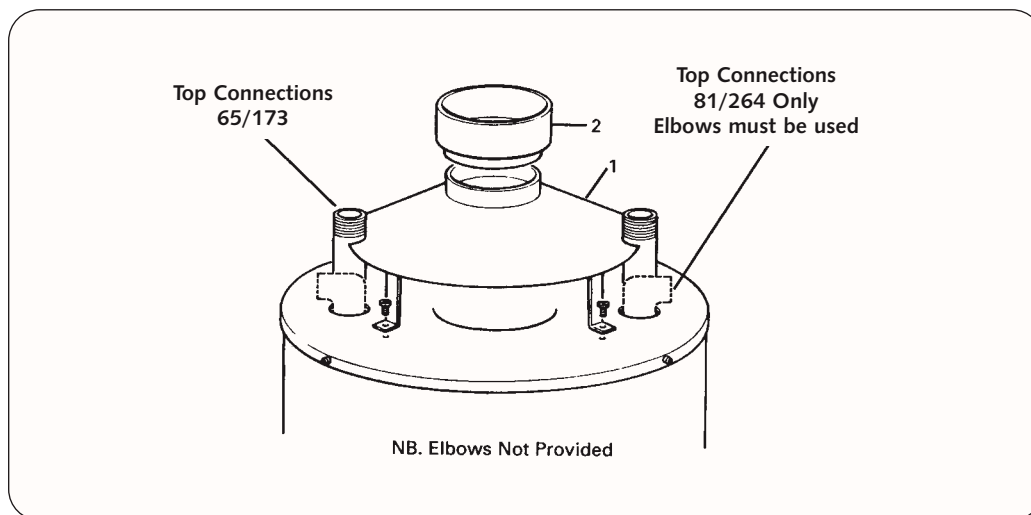

Fig. 1
The draught diverter must be assembled with the legs provided. Attach the legs to the draught diverter with the nuts and bolts provided. Fit the draught diverter (1) as shown in Fig.1 to the water heater using the screws provided. For Standard Range fit the draught diverter to the top of the water heater using the location holes.
Fit the adaptor socket (2) and caulk into the draught diverter as shown in Fig. 1.